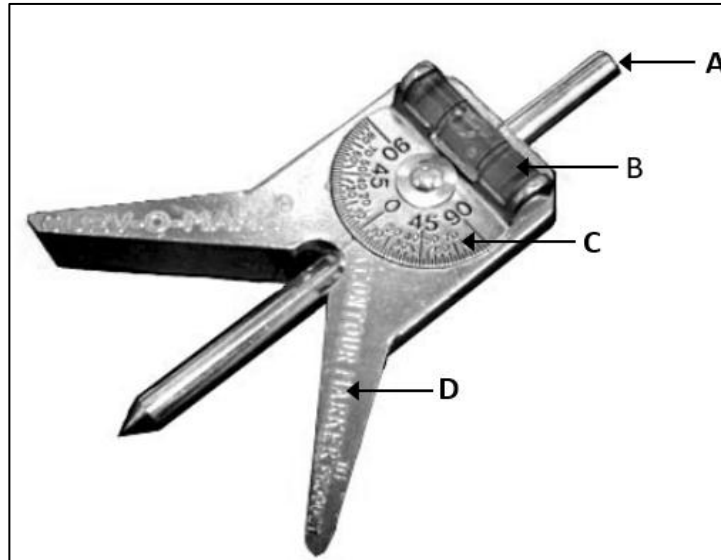

FIGURE 1
4.1 FIGURE 1 shows the outside view of a centre finder.
Name the parts indicated in FIGURE 1 by writing only the answer next to the letter (A–D) in the ANSWER BOOK.